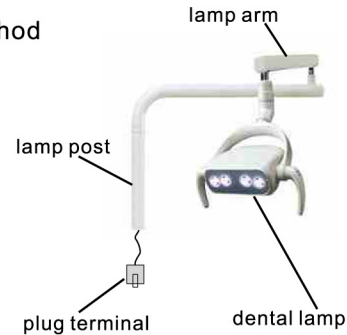

figure 5
- First, insert the lamp arm and the column in the lamp. Then connect the lamp arm and the cabinet post to the socket, and insert the lamp arm and the middle column into the box. (See figure 5). Be careful not to damage the wire when installing.